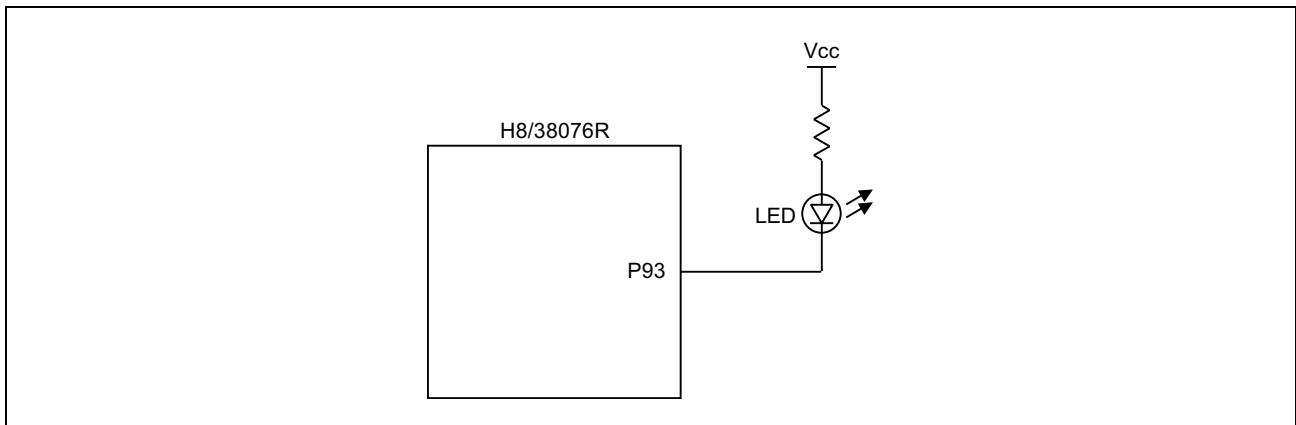

Figure 1 Example of Cyclic Operation Using TPU Compare Match Function
- An example of cyclic operation by means of the TPU output compare function is shown in figure 1.